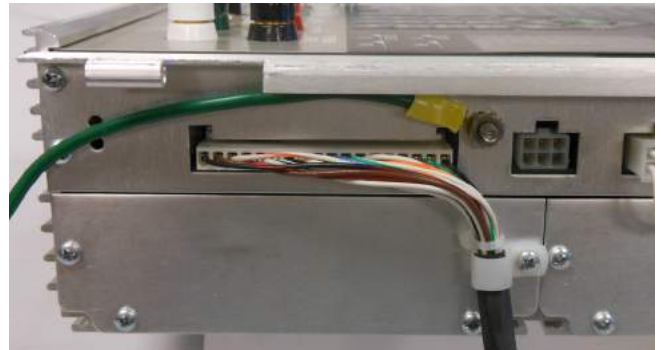

Figure 13. Wiring harness installed with repositioned strain relief device
- Install the new wiring harness assembly (Item 1) in the connector located on the side of the CL-7 control panel. Refer to **Figure 13**.
- Remove a screw and install the strain relief device under the screw as shown in **Figure 13**.